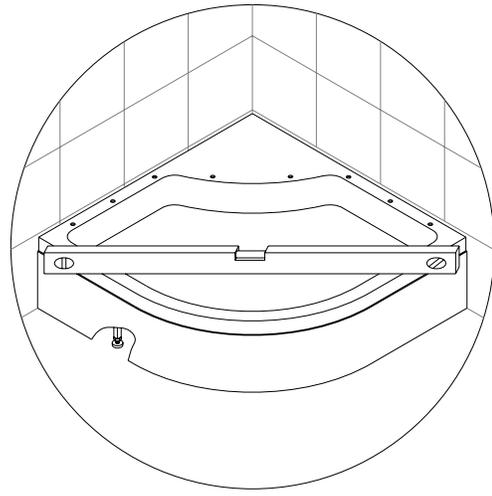

Fig 6
7. Place the tray in the required position. You may need to take off the front skirting panel for easy access. Adjust the legs to level the tray in case the surface is uneven. Fasten the counter nuts on the legs to secure the height; (fig 6)